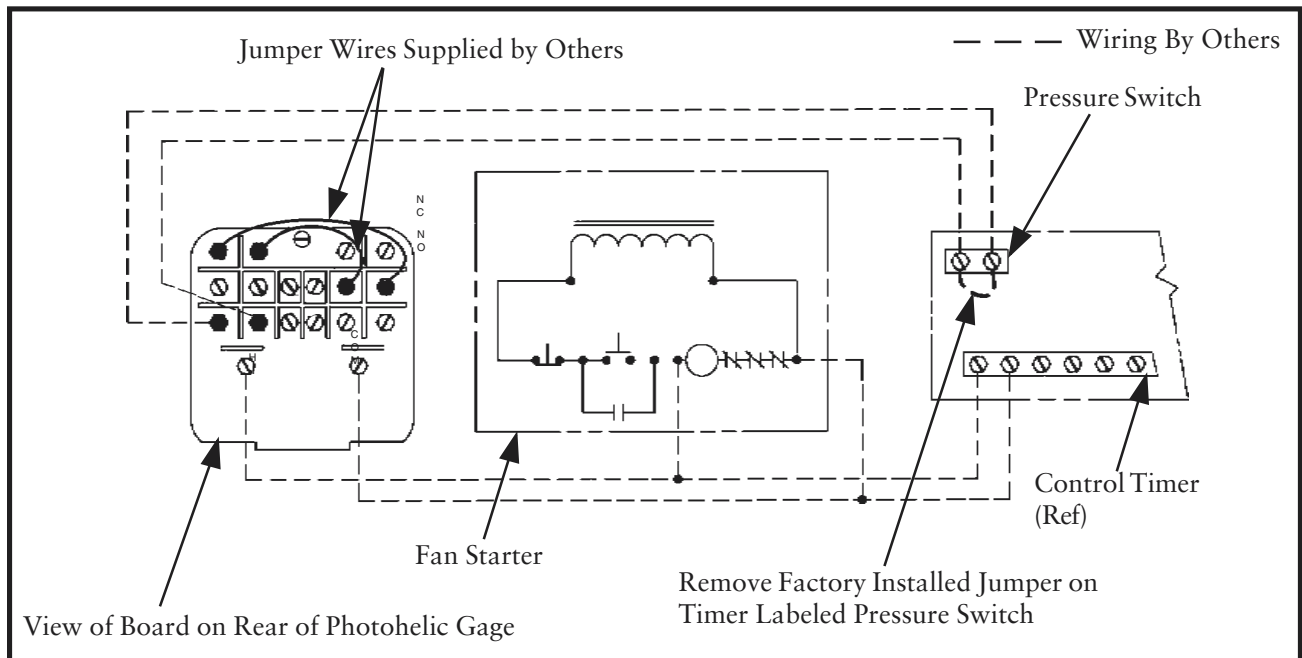

Figure 8
2. Mount the gage to the panel with mounting ring, retaining ring, and four (4) #6 - 32 x 1-1/4" long screws. Before tightening the screws, assemble the two (2) 1/8" NPT x 1/4" OD. male tube adapters supplied with the gage into the openings on the side of the gage marked high or low pressure. Align gage so that the two (2) 1/8" NPT male tube adapters and the 2.375" hole diameter in the mounting bracket are in line and then tighten the four (4) #6 - 32 x 1-1/4" long screws.
- Remove the four (4) #6 - 32 x 5/16" long screws and the plastic enclosure on back of the Photohelic gage and set aside. Add the two jumper wires (not supplied by Torit) and wire gage as shown in Figure 8, Photohelic Gage Wiring Diagram using 3/4" conduit opening. Reassemble plastic enclosure and fasten securely using the #6-32 x 5/16" long screws previously removed.
- Refer to Figure 8, Photohelic Gage Wiring Diagram for the proper wiring of the Photohelic gage.
Torit recommends pulse cleaning the collector during work hours and with the fan operating. However, if the user prefers to control when the unit will pulse, the control switch 1TGS provides a means of doing this. See Figure 8, Wiring Diagram and reference Section 2.7.2, Solid-State Control Timer Specifications. The control box receives power only when the fan is operating. Control switch 1TGS is operated manually. Contact your Torit representative if you have questions on this type of operation.